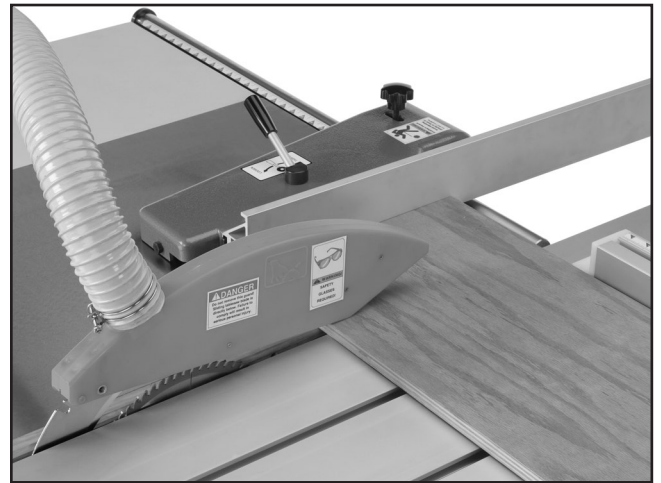

Figure 70. Crosscutting workpieces using the rip fence as a cut-off gauge.
Lastly, this machine has the capability of crosscutting workpieces while using the rip fence as a cut-off gauge (**Figure 70**).
4. Load the workpiece onto the table saw. The set up should look similar to **Figure 70**.